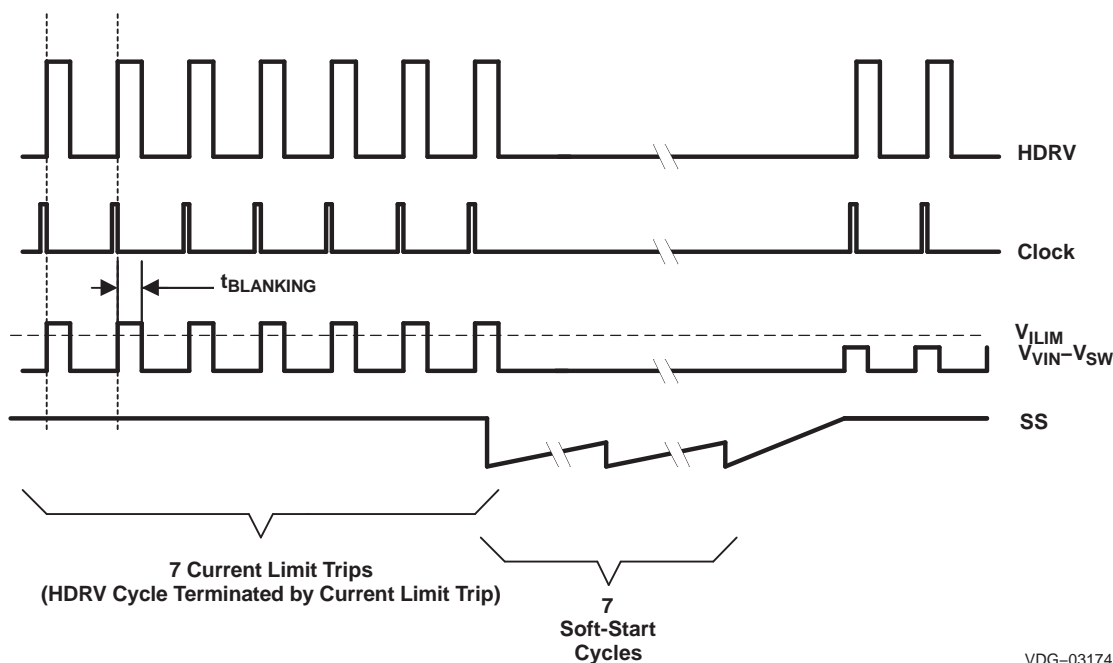

Figure 11. Typical Fault Protection Waveforms
The second tier protection incorporates a fault counter. The fault counter is incremented on each cycle with an overcurrent pulse and decremented on a clock cycle without an overcurrent pulse. When the counter reaches seven (7) a fault condition is declared by the controller. When this happens, the output drivers turn both MOSFETs off. Seven soft-start cycles are initiated (without activity on the HDRV and LDRV outputs) and the PWM is disabled during this period. The counter is decremented on each soft-start cycle. When the counter is decremented to zero the PWM is re-enabled and the controller attempts to restart. If the fault has been removed the output starts up normally. If the output fault is still present the counter counts seven overcurrent pulses and re-enters the second tier fault mode. Refer to Figure 11 for typical fault protection waveforms.